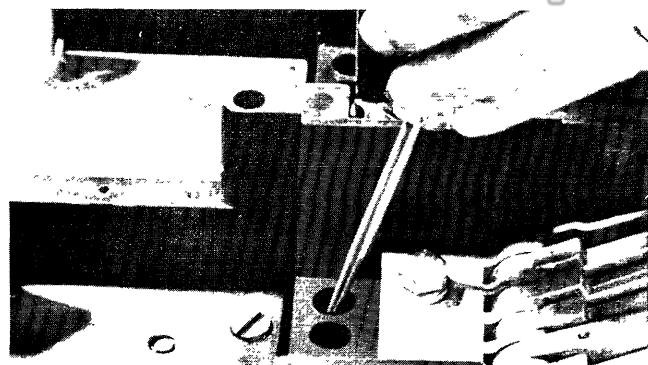

Fig. 2.
2. Remove appropriate knockout(s) in the breaker base using screwdriver and hammer as shown in Fig. 2. Remove all debris from the breaker.